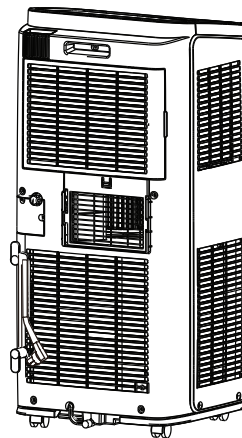

Fig.2
- Wind the power cord around the wire hook.(As show in Fig.2)